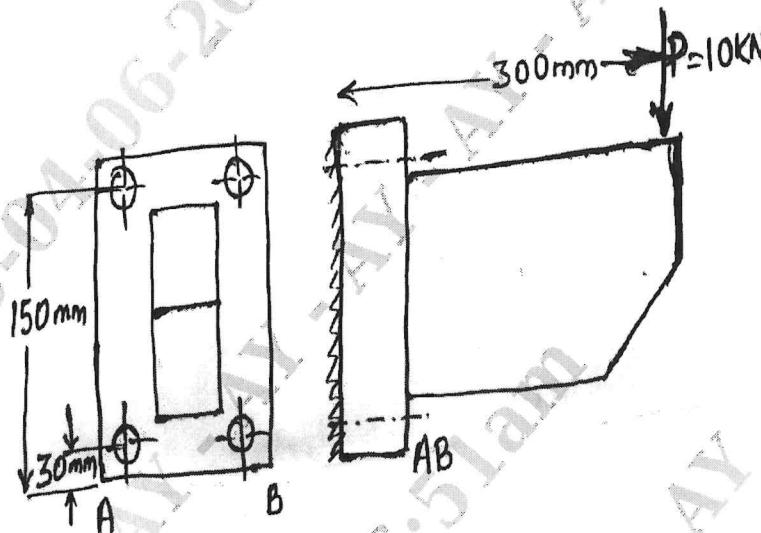

Fig Q6(b)
- b. A bracket is fixed to the wall by means of four bolts and loaded as shown in Fig Q6(b). Calculate the size of bolts if the load is 10 kN and the design shear stress for bolt material is 40 MPa.